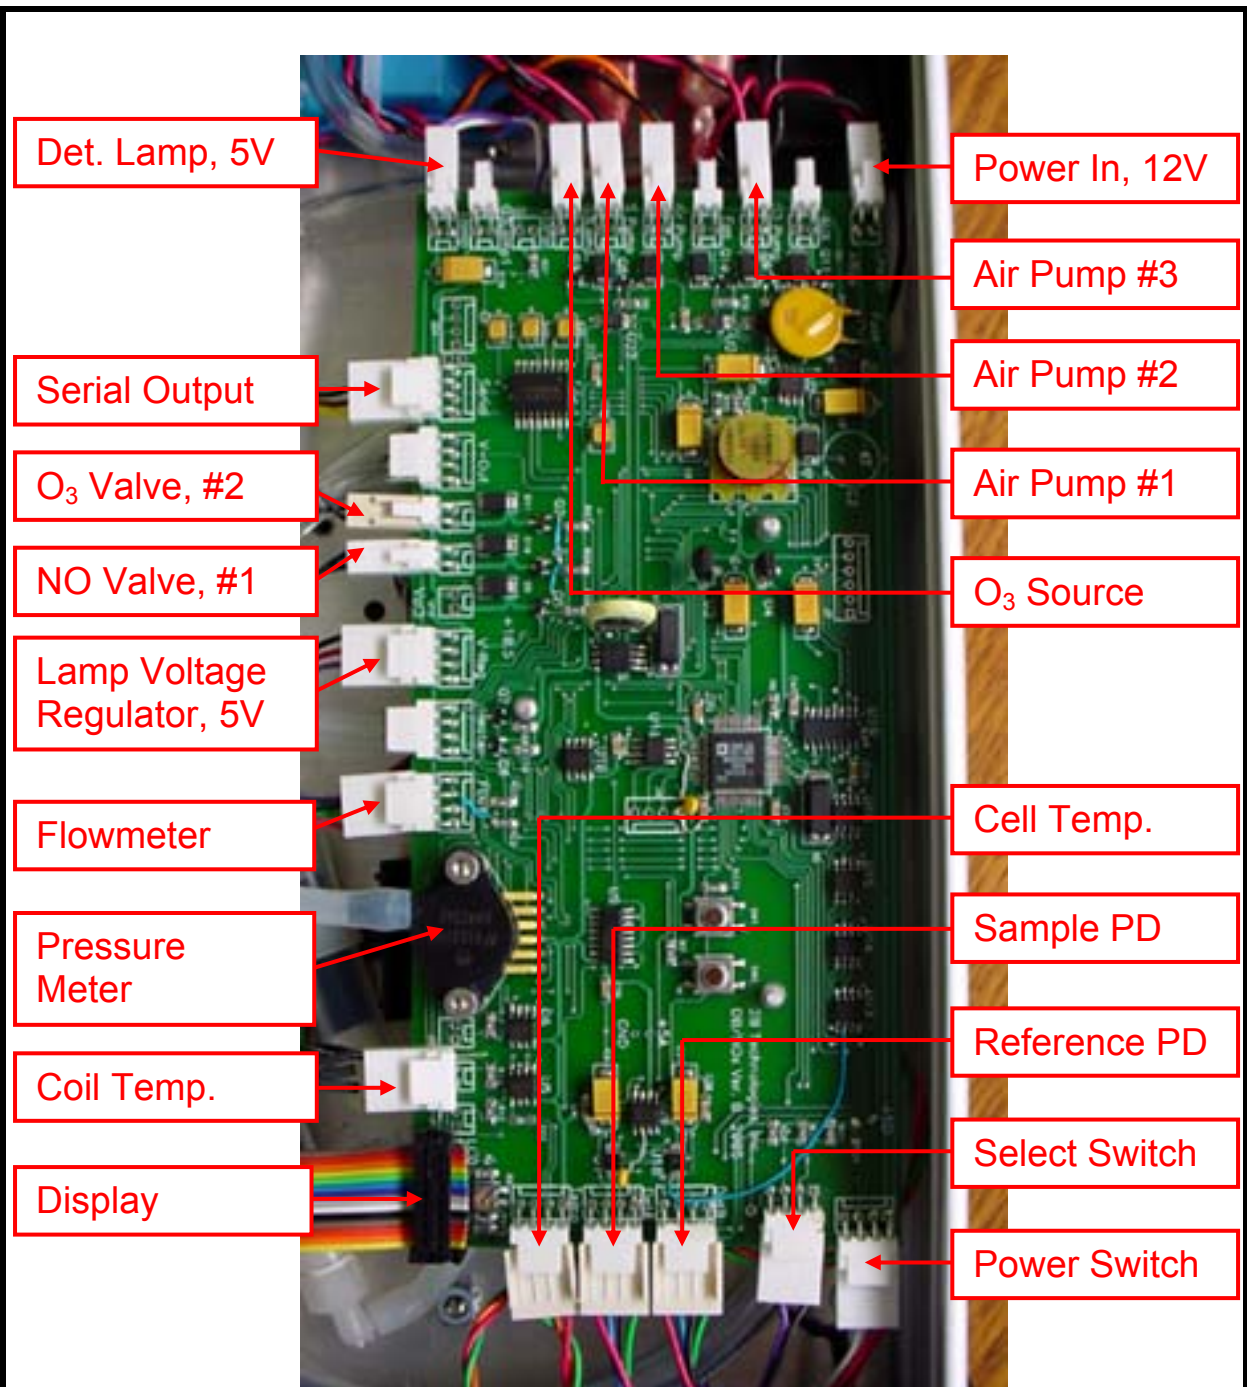

FIGURE 3-3: Printed Circuit Board. (Individual Instruments may vary.)
- 3) **Is there power to the board?** Measure the dc voltage on the power inlet connector shown in Figure 3-3. It should be close to 12 V.